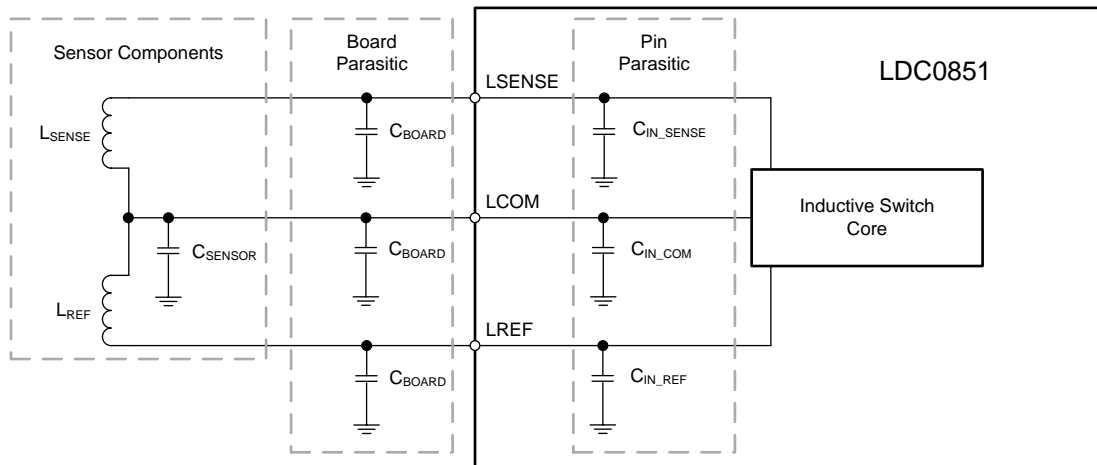

图 25. Sensor Components, Board Parasitics, and Package Parasitics Diagram
- C_{BOARD} is the parasitic capacitance of the board, see 图 25
- (3)
- C_{TOTAL} is sum of external sensor, board parasitic, and pin parasitic capacitances connected to LCOM, refer to 图 25 (6)